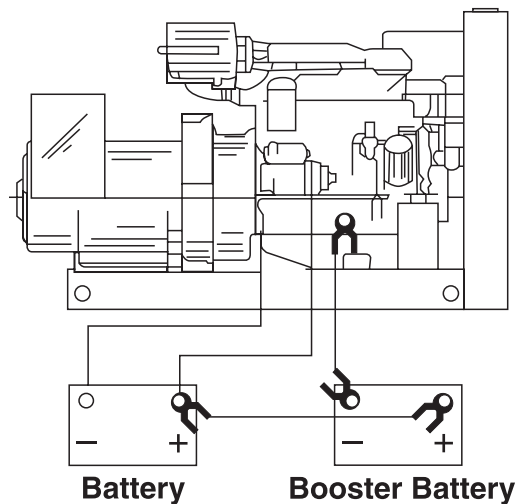

Figure 15: *Booster Battery Connections*
3. First, connect the positive (+) terminal of the booster battery to the positive (+) terminal of the main battery. Then, connect the negative (-) terminal of the booster battery to ground on the engine block (Figure 15).